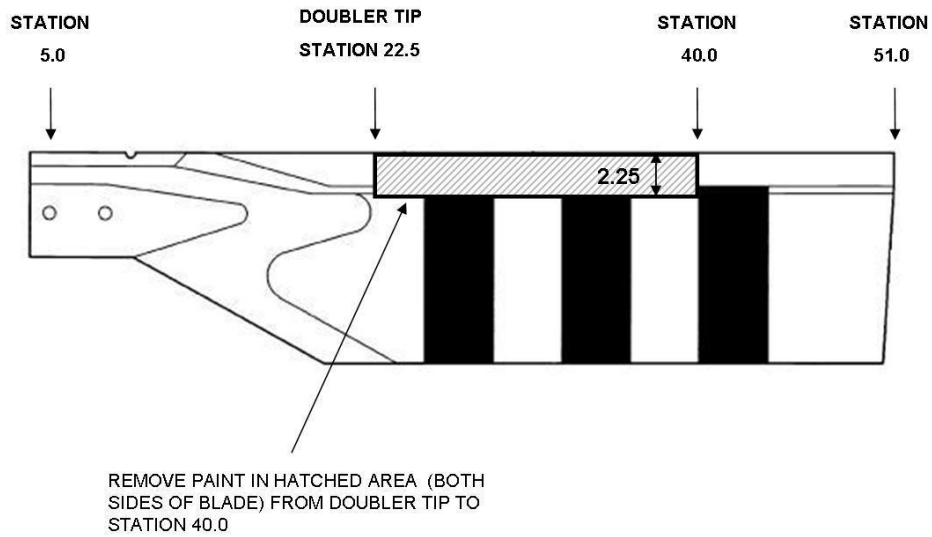

Figure 1
3. Ensure that all paint (on the spar only) is removed from the first 2.25 inches of the leading edge (chordwise) and from the B.S 22.5 (doubler tip) to B.S. 40.0. Refer to Figure 1. This will expose the spar up to the fillet between the blade spar and skin. A fillet filled with adhesive runs spanwise between the blade spar and the skin 2.25 inches aft of the blade leading edge, both inboard and outboard sides. The primary area to be inspected runs along the edge of the spar fillet and a half inch forward of this point. (Between 1.75 and 2.25 inch from the leading edge of the blade and from Blade Stations 22.5 to 40.0, both inboard and outboard sides).